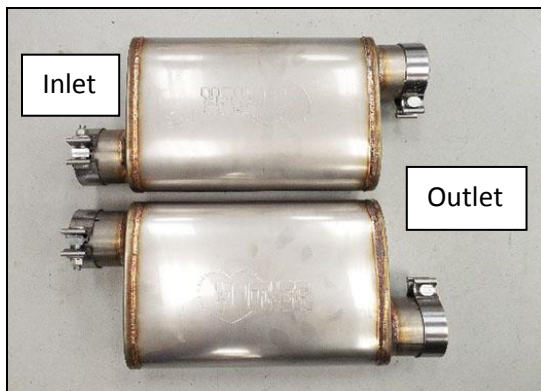

Figure 1
3. Install a 76mm band clamp on to the muffler inlet pipe with the clamp positioned with the bolt on top of the pipe and the bolt facing the outside of the car. Position the mufflers with the weld seams to the inside facing each other (**Figures 1 & 2**).
8. Install the supplied 76mm band clamp over each muffler or muffler delete outlet tube (bolt inside and nut down – **Figures 1 & 2**).